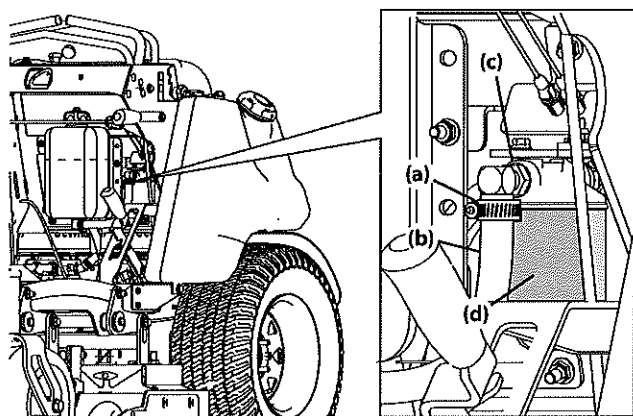

Figure 23
2. Loosen the hose clamp (a) securing the transmission oil hose (b) to the transmission oil filter assembly (c). See Figure 23.